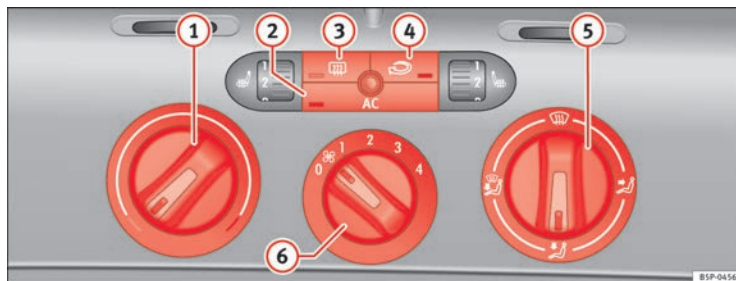

Fig. 127 On the dash panel: Climatic controls
– Using the controls ⇒ fig. 127 ① and ④ and the control ⑤ you can set the temperature, air distribution and the turbine speed.
– To switch a function on or off, press the appropriate button ②, ③ or ④. When the function is activated, the display window in the lower corner of the button is lit.
① Temperature selector ⇒ page 158
② Button **AC** – Heating, ventilation and air-conditioning system on/off ⇒ page 158
③ Button – Rear window heating. The heating will be switched off automatically approximately 20 minutes after switching on. It can also be switched off beforehand by pushing the button.
④ Button – Air recirculation mode ⇒ page 159
⑤ Air distribution control ⇒ page 158
⑥ Blower switch. There are four speed settings for the air flow. The air flow should always be set at the lowest speed when driving slowly.
- Switch on the air conditioning using the button ⇒ page 157, fig. 127 .